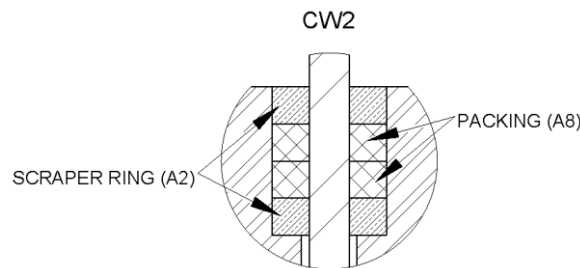

Figure 5 - Packing Detail
- c. Assemble and pack the last row of scraper ring (A2). See Figure 5 for packing detail: